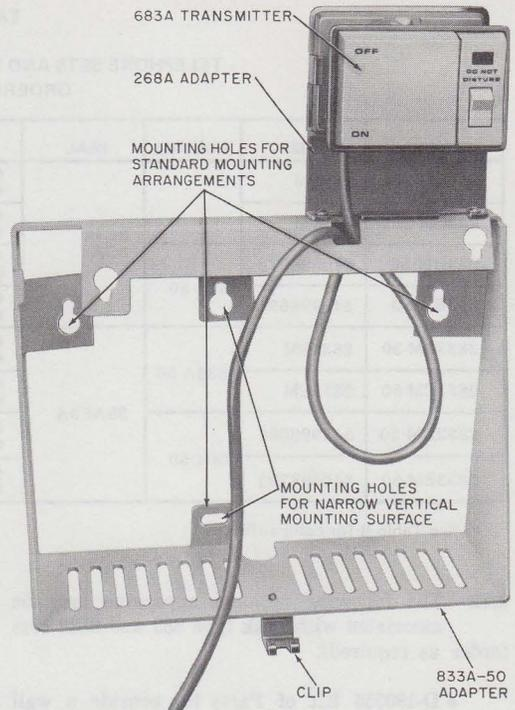
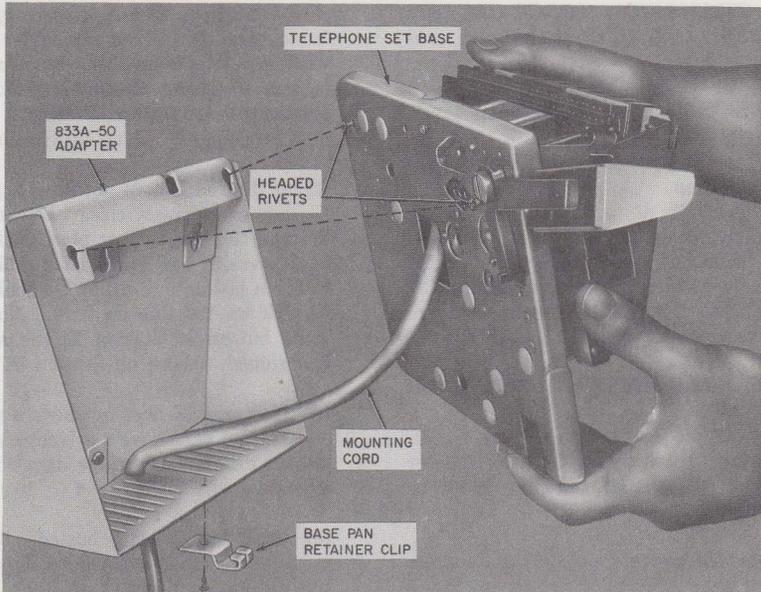

Fig. 3—833A-50 Adapter with 268A Adapter and 683A Transmitter
Fig. 4—Mounting Telephone Set Base onto 833A-50 Adapter
- Delete Fig. 3 and 4
3.02 All DM and EM (wall type) sets are shipped with an 833A-50 adapter, screw, and clip (Fig. 3) which are used for mounting the telephone set to a vertical surface. Install the 833A-50 adapter and telephone set as follows.
- (1) Mount the adapter to the wall or vertical surface as shown in Fig. 3, using appropriate fasteners (Section 080-720-105). If the mounting cord is to be dressed down the wall, it is necessary to pass the cord through the notch in the adapter before final attachment of the adapter to the wall (Fig. 4). If the cabling enters through the wall, the mounting cord may be contained within the adapter.
- (2) Remove faceplate and housing from telephone set.
- (3) Hang the telephone set on the adapter from the headed rivets that protrude from the base pan (Fig. 4).
- (4) Secure the telephone set base with the clip, and screw at the bottom of the adapter (Fig. 3).
- (5) Install telephone set options (see 3.05).
- (6) Replace housing and faceplate.
- (1) If feature is to be added to DM- or EM-type set, a 268A adapter must be used as follows:
- (a) Mount 268A adapter onto 833A-50 adapter with two screws as shown in Fig. 3 with the tabs of the 268A adapter facing outward from the vertical surface. The 683A-50 transmitter is secured by sliding the transmitter downward between the tabs on the adapter. The telephone set end of the transmitter cord enters the telephone set and is attached to the telephone set base at the small notch on the top edge of the base panel. The excess cord is stored in the 833A-50 adapter.
- (2) For B/BM or C/CM (desk type) sets, the transmitter cord will enter at the rear of the set.
- (3) Refer to Table D for connections.